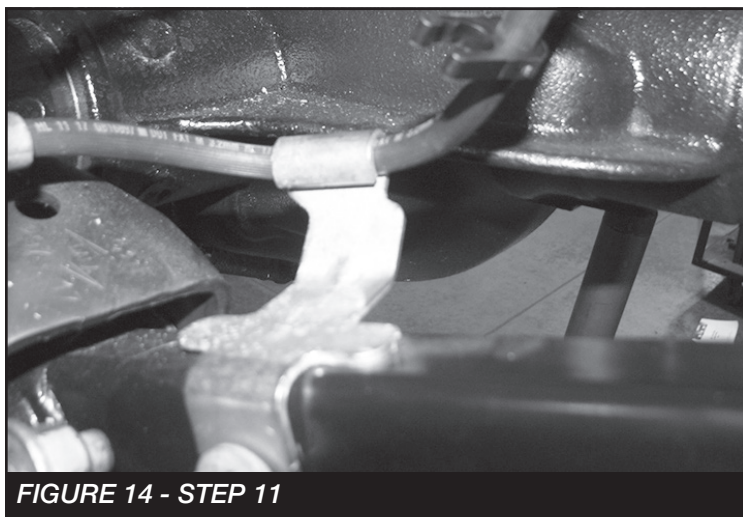

FIGURE 14 - STEP 11
11. Reconnect all brake line brackets with the factory hardware and torque 29 ft-lbs. **NOTE: Bend the lower link arm brake line bracket upward an inch to give the line some relief at full extension. SEE FIGURE 14**